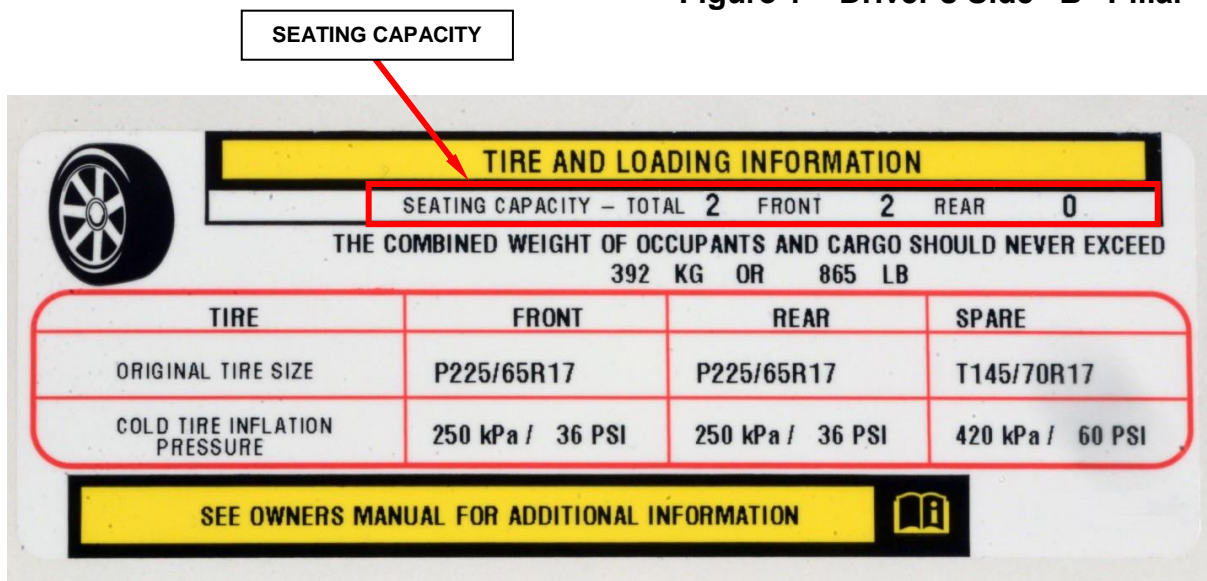

Figure 2 – Tire Placard Label – Seating Capacity
2. Inspect the “Seating Capacity” section of the label to determine the seating capacity stated on the label (Figure 2):